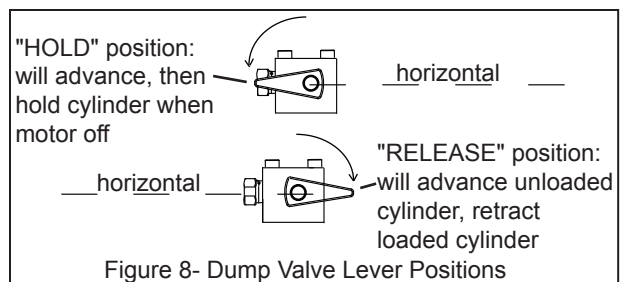

Figure 8- Dump Valve Lever Positions
### PARD1701, PARD1703 (see Figure 8)
4. See Figure 8 below for details.